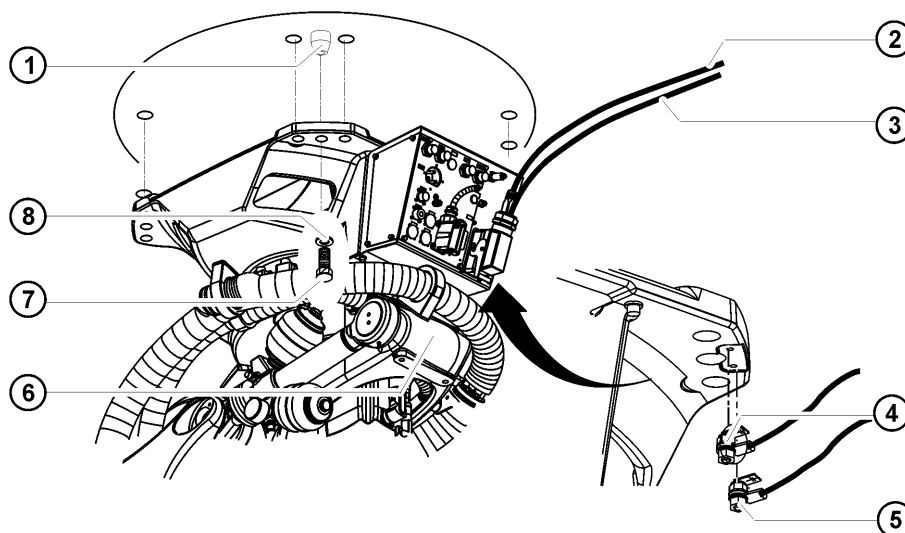

Fig. 8-4: Installing the robot
1. Check that both pins (>>> Fig. 8-4) (1) are undamaged and fitted securely.